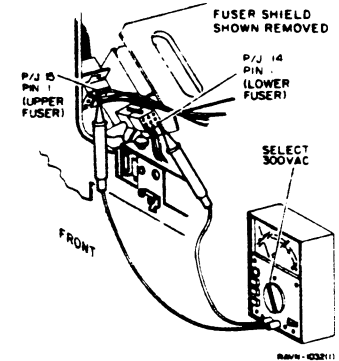

Figure 5. Measuring the Line Voltage
7. ADJUST POTENTIOMETER UNTIL THE CODES ON THE DISPLAY PANEL ARE WITHIN  $\pm 1$  UNIT OF THE CODE IN TABLE ON 5-C9, WHICH IS RELATED TO THE MEASURED LINE VOLTAGE (FIGURE 5).